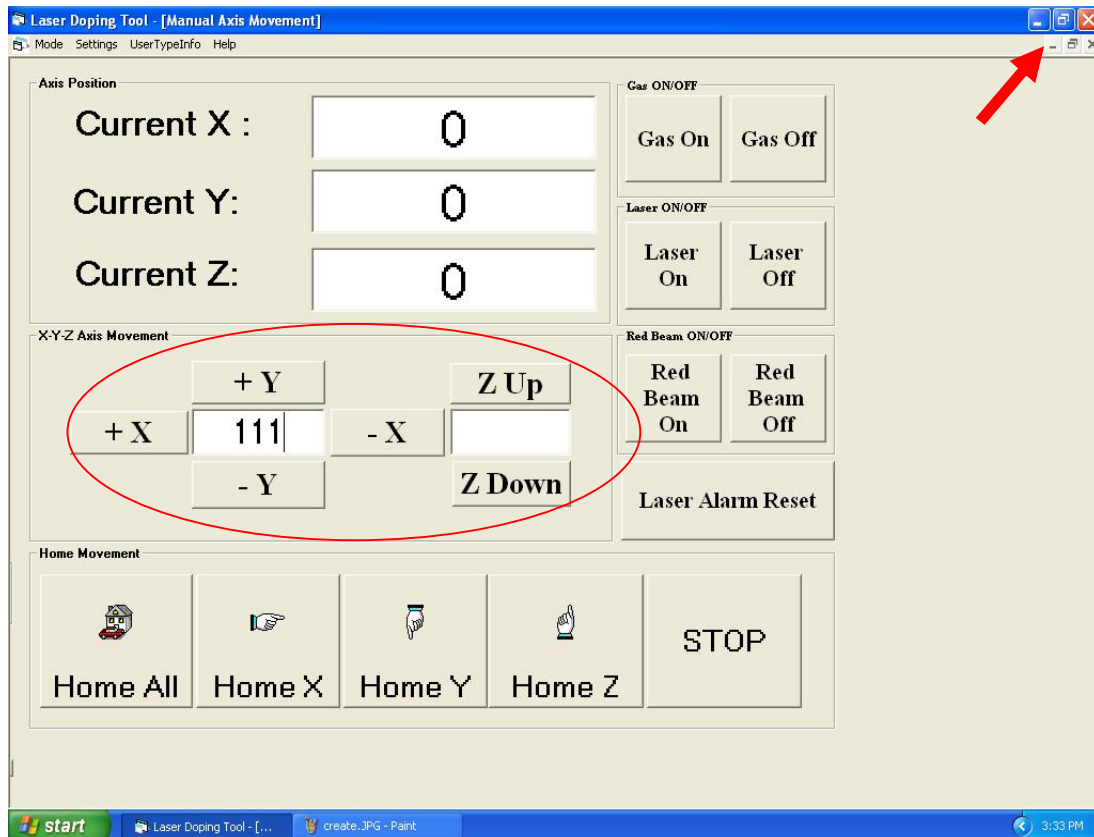
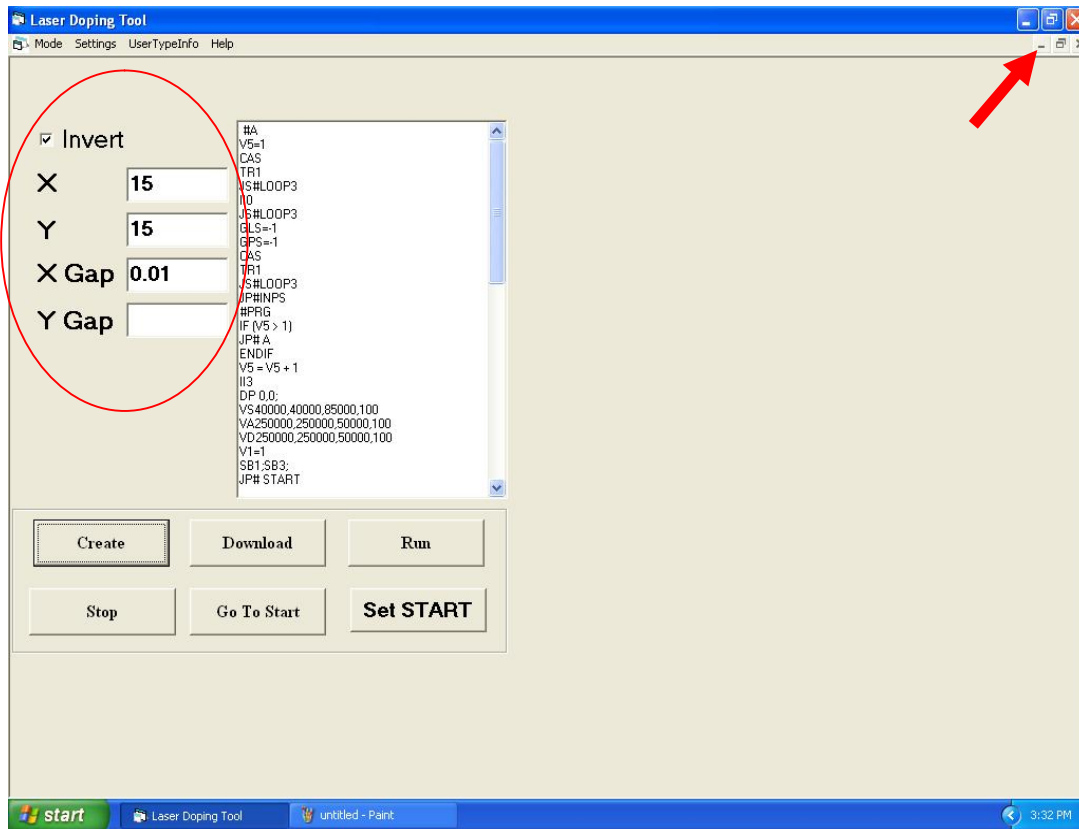

Fig 3: X-Y-Z movement interface
Fig 4: Raster scan interface
6. At the software interface, go to 'Mode' → 'Jog' menu. This will open a new window as shown in figure 3. This interface is used to move the stage for positioning.
14. Now minimize the 'Jog' window only (click minimization button as shown by the arrow in figure 3). Go to 'Mode' \rightarrow 'Scanning' menu. This will open a new window as shown in figure 4. This interface is used to raster scan the laser over a specified rectangular/square area.
18. To change the position of the start of the scan, minimize the 'CreateFile' window (click minimization button as shown by the arrow in figure 3) and maximize the 'Jog' (Manual Movement) window and follow procedures explained earlier.